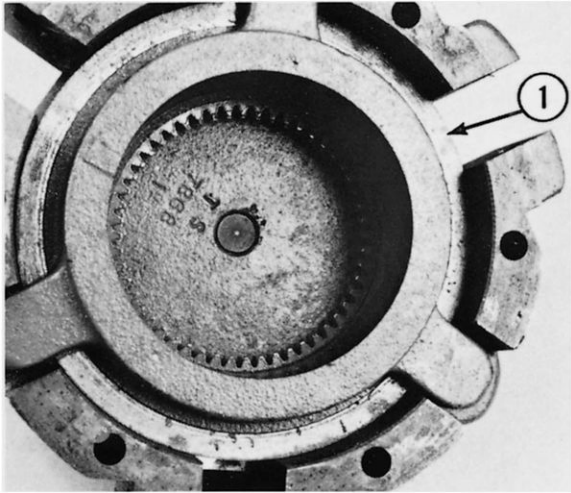
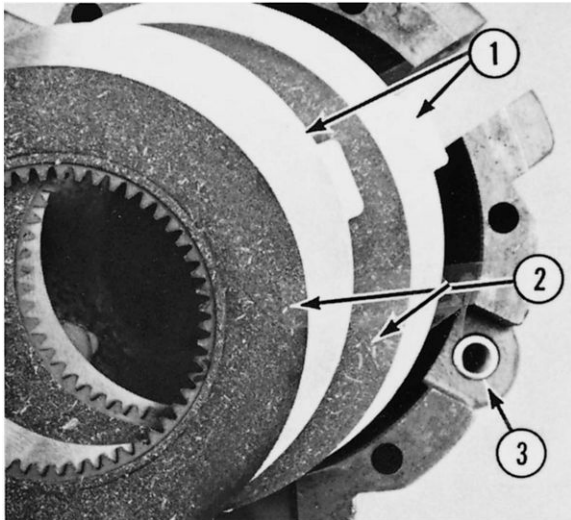

Fig. 9-10
Fig. 9-11
(5) Remove the pressure plate (1, Fig. 9-10), steel discs (1, Fig. 9-11) and inner discs (2, Fig. 9-11).
(6) The three release springs (3, Fig. 9-11) and spring discs can now be removed.